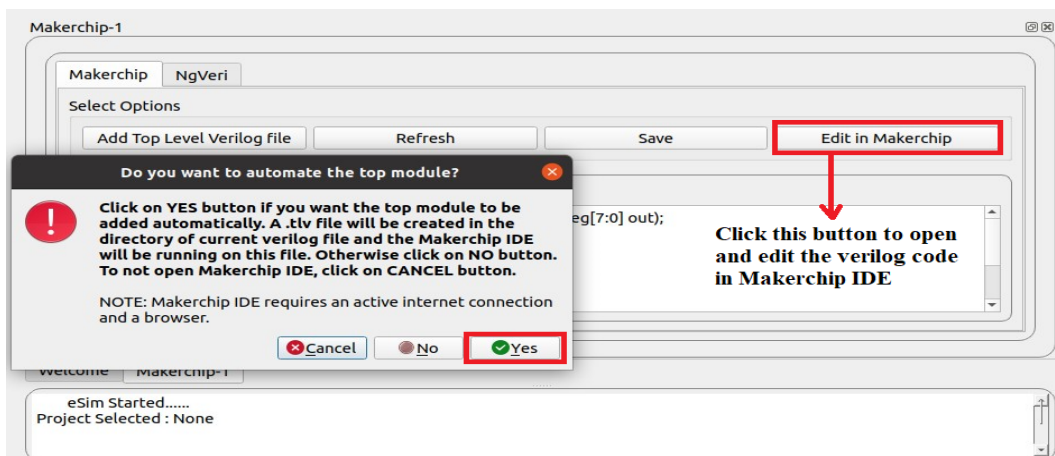
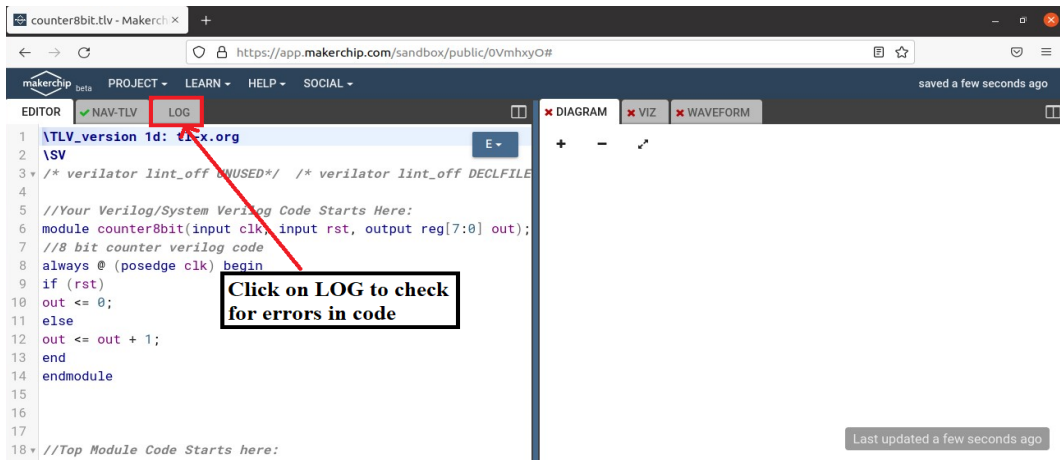
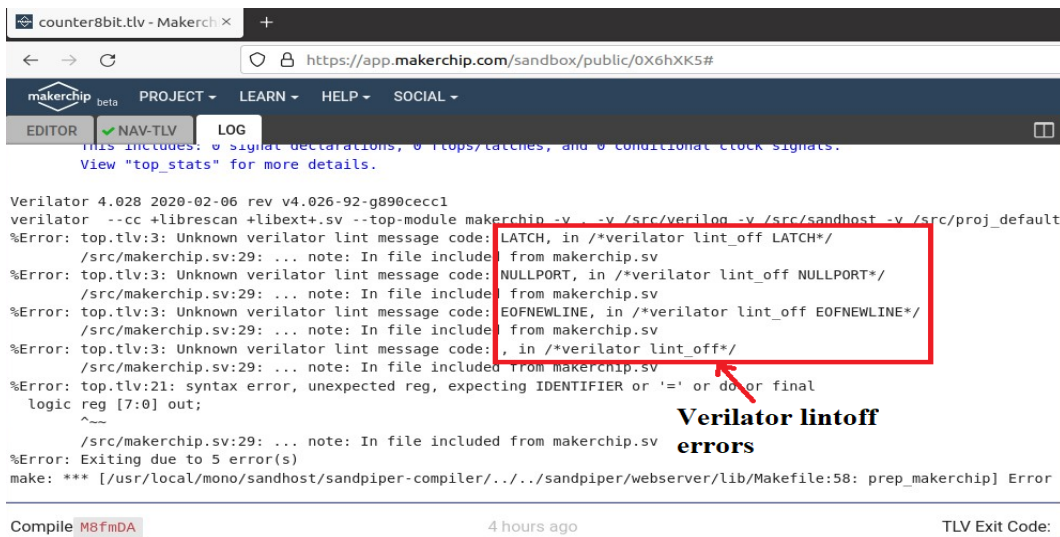
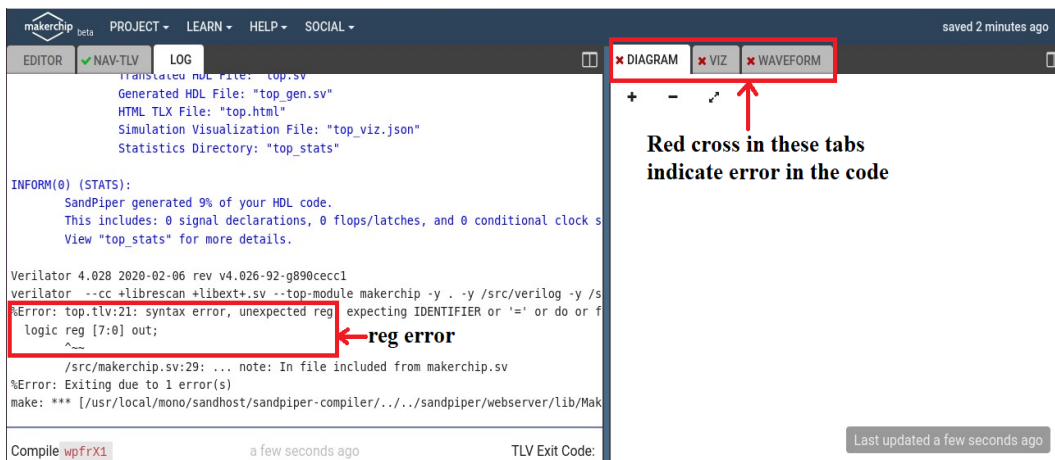

Figure 10.12: Opening Makerchip IDE
Figure 10.13: Makerchip IDE interface
Figure 10.14: Verilator lintoff errors
Figure 10.17: Unexpected reg error in the code
- Now click on **Edit in Makerchip** button to open and edit the verilog code in Makerchip IDE. A pop-up window will appear as shown in Fig. 10.12. By clicking on **Yes**, a top level verilog file i.e .tlv file will be created in the same directory of current verilog file and the Makerchip IDE will be run in a new web browser as shown in Fig. 10.13. By clicking on **No**, the current raw verilog file i.e .v file will open up in Makerchip IDE web browser.
11. User can check for errors by clicking on **LOG** tab in Makerchip IDE interface as shown in the Fig. 10.13. Following window will appear as shown in Fig. 10.14, where you can check the Verilator lint-off errors.
12. As shown in the Fig. 10.14, verilator lint-off commands which caused error in the Log section needs to be removed from Line 3 in the editor window. Two such commands which needs to be removed are shown in the Fig. 10.15.
- After compiling, **Unexpected reg error** remains in the Log section (Refer Fig. 10.17) which can be rectified by removing *reg* from top level verilog code as shown in Fig. 10.18. By clicking **Yes** button in Fig. 10.12, a Top Level Verilog (TLV) code automatically gets added in the editor. Refer Fig. 10.18. The value of *rst* value is by default as random value and it can be replaced if user wants to assign values. We have assigned *rst* with *reset* in this counter example.